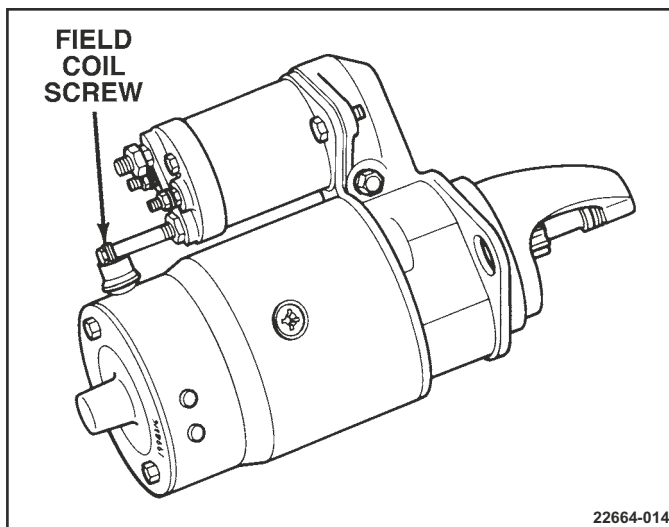

Figure 4-9 Disconnecting Field Coil From Solenoid Strap
Figures 4-9 through 4-11
1. Disconnect motor field coil connection from solenoid motor terminal and insulate it carefully (figure 4-9).